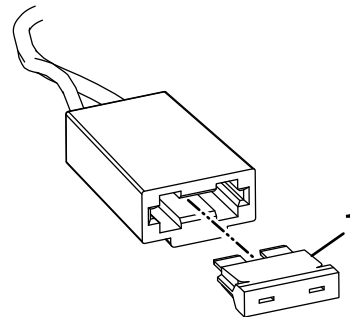

Figure 42
2. To replace a fuse, pull out on the fuse to remove it (Figure 42).